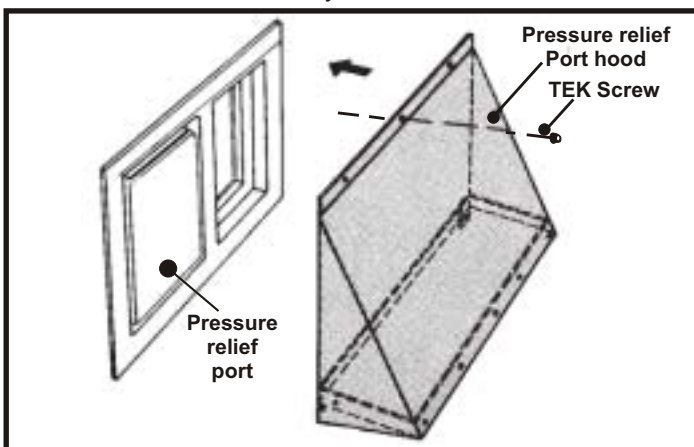

Fig. 35
- Insert Tek-screws through the pre-drilled holes in the hood flange. See Fig. 35.